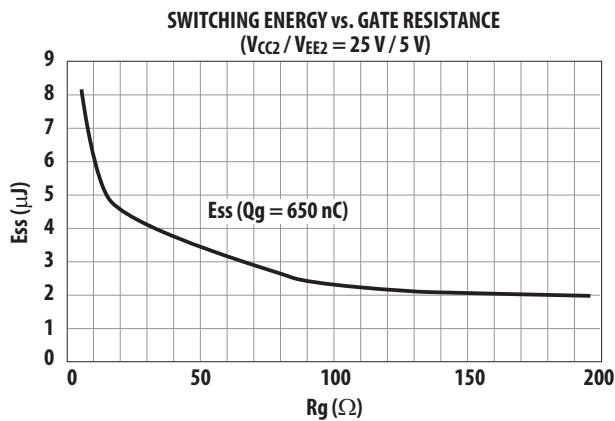

Figure 76. Switching energy plot for calculating average P_{switch} (for ACPL-36JV output driving an IGBT rated at 600 V/100 A).
2. Calculate total power dissipation in the part referring to Figure 76. (Average switching energy supplied to ACPL-36JV per cycle vs. R_G plot);
For $R_G = 10.5$, the value read from Figure 76 is $E_{SWITCH} = 6.05 \mu\text{J}$. Assume a worst-case average $I_{CC1} = 16.5 \text{ mA}$ (which is given by the average of I_{CC1H} and I_{CC1L}). Similarly the average $I_{CC2} = 5.5 \text{ mA}$.